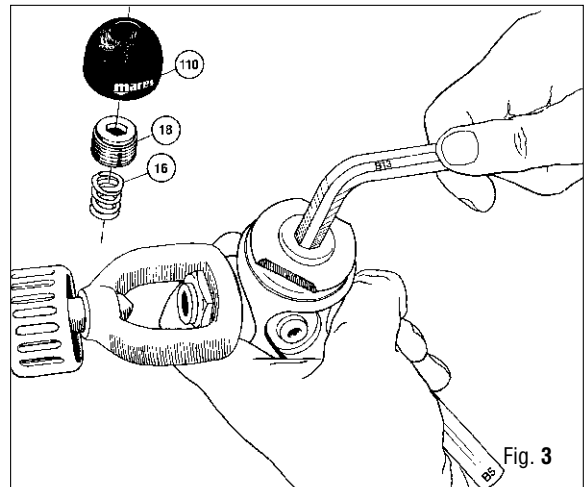

Fig. 3
6. Remove seat connector (75) and O-ring (74) from the First Stage.
8. Remove protection cap (110).
9. With the setscrew wrench (B-13), unscrew regulating nut (18) and spring (16). (Fig. 3).